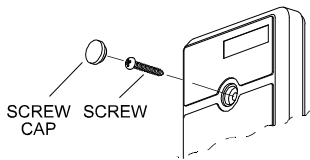

Figure 3. Cover Removal
A. Remove the screw that secures the cover to the base and remove the cover as shown in Figure 3.